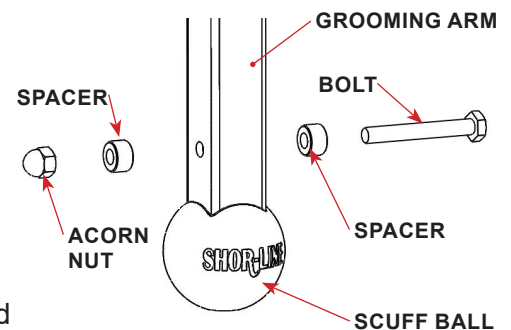

FIGURE 2.8 - Lower Slide Stop Pin
STEP 6: Slide one of the spacers onto the lower slide bolt and insert through the lower hole on the arm. See FIGURE 2.8